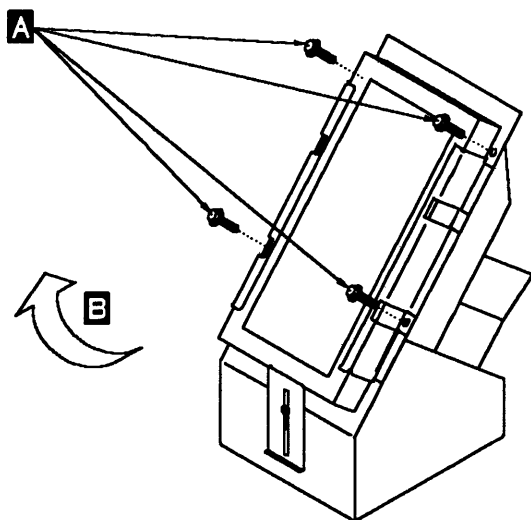

Figure 5-91. Air Moving Device Removal
6. Referring to Figure 5-91 on page 5-97: